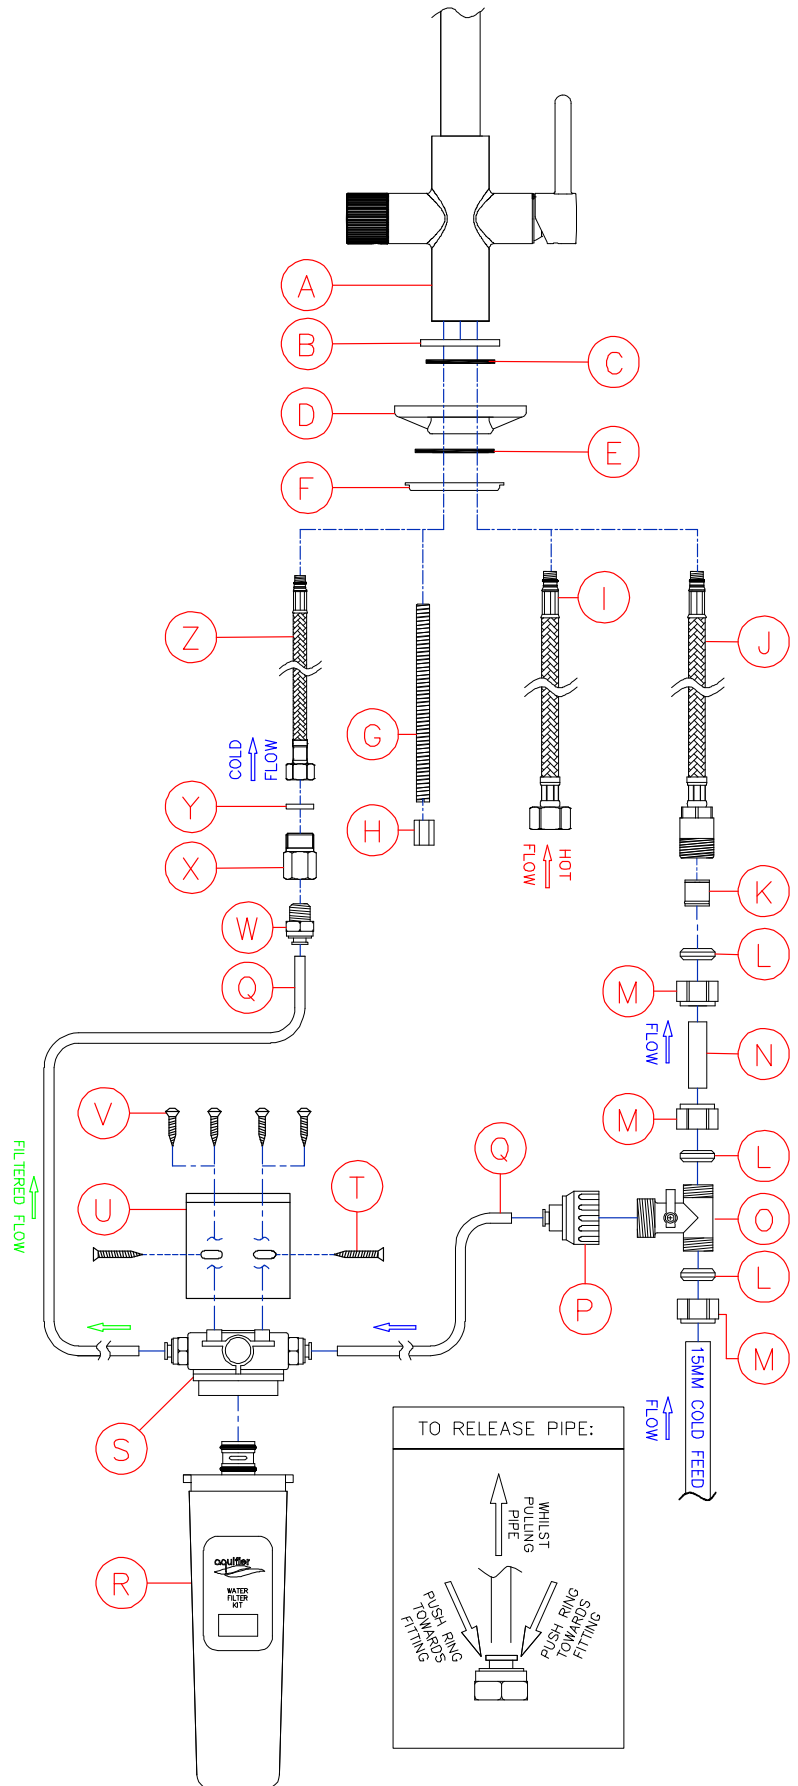

Fig.1
1. Screw the fixing stud (G) into the base on the tap (A). Note: Fig.1 identifies the water inlets, viewed from the base of the tap.
2. Place the base plinth (B) then the upper seal (C) on to the base of the tap (A).
3. Screw the Cold (J), Hot (I) and Filter (Z) tail pipes into the base of the tap.
4. Place the tap (A) centrally and straight to the tap hole, passing the fixing stud (G) and tail pipes (J, I & Z) through the sink.
5. Pass rubber horseshoe (E) then the metal horseshoe (F) over the fixing stud (G). Note: Only if the tap is to be fitted to a stainless steel sink then the white triangular plate (D) can be fitted where shown to improve the stability of the tap.
6. Using a spanner tighten fixing nut (H) onto the fixing stud (G), a box spanner or small basin wrench will help if one is available.
7. Screw adaptor (X) to Filter tail pipe (Z) ensuring fibre washer (Y) is placed inside first (see drawing). Note: We advise using PTFE tape on threaded section of adaptor (X) to make a good seal.
8. Screw the pushfit fitting (W) into the adaptor nut (X). Note: We recommend using PTFE tape (do not use sealing compound) on the thread of the pushfit fittings to make a good seal without applying excessive force (which may damage the plastic pushfit if overtightened).
9. Attach the hot water tail pipe (I) to the water supply.
10. Attach the 3-way valve (O) to the cold water feed pipe using compression nut (M) and olive (L).
11. Attach the 3-way valve (O) to the cold water inlet pipe (J) using a short length of 15mm pipe, compression nut and olive (not supplied).